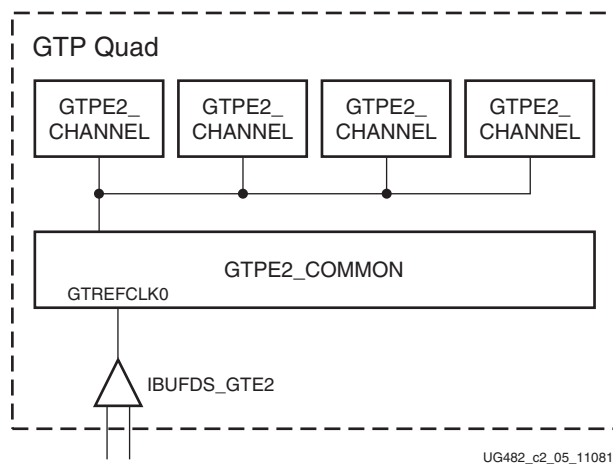

Figure 2-5: Single GTP Quad with a Single Local Reference Clock
In the single external reference clock use model, the user connects the IBUFDS_GTE2 output (O) to the GTRFCLK0 input port of the GTPE2_COMMON primitive. The user design can leave the other unused reference clock ports floating. The IBUFDS_GTE2 input pins can be constrained in the user constraints file (UCF). Figure 2-5 shows a single GTPE2_COMMON primitive connected to a single IBUFDS_GTE2 primitive.